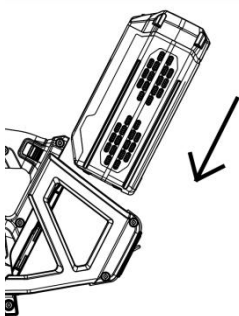

Fig 12
1. **Insert Sunseeker 4Ah battery pack (Model# LBC60140) into the socket, until you hear a clear “click” sound (Fig 12).**